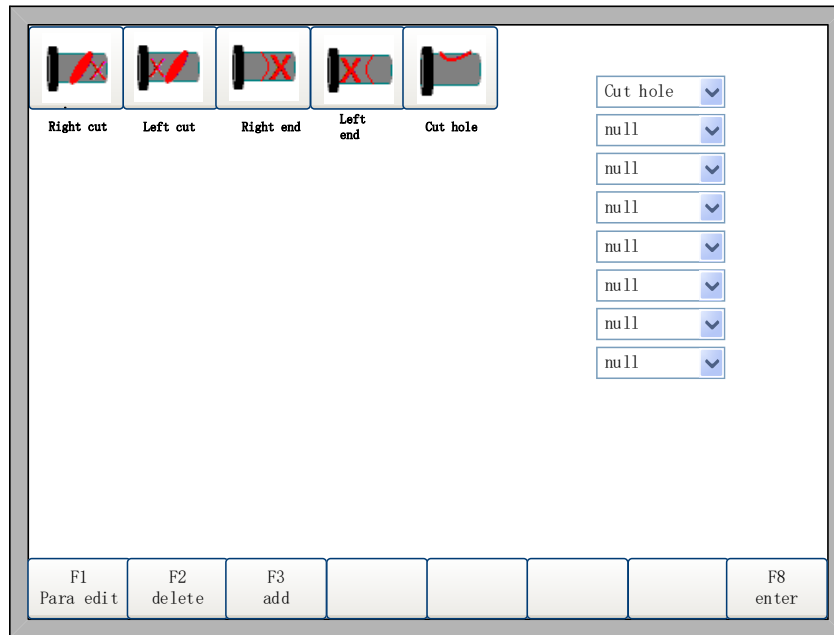

Fig16.3 Graphics library interface
Under the main interface, press [F1] to enter the tube graphics library interface, as shown in Figure 16.3.
In Figure 16.3, undergraphics library interface, press [↑], [↓] to select the end of the parameter to be set, and then press [F1] to display the corresponding parameter editing interface.
- Pipe Diameter 1: The outer diameter of the cut pipe, 1 on the schematic, which can only be set in the type of terminal selected in the first drop-down box in Figure 16.3. Unit: mm
- Pipe wall thickness 2: The wall thickness of the cut pipe, 2 on the diagram. This parameter can only be set in the type of terminal selected in the first drop-down box in Figure 16.3. Unit: mm
- Branch pipe1: The outer diameter of the cut pipe, 1 on the diagram. This parameter can only be set in the terminal type selected in the first drop-down box in Figure 16.3. Unit: mm
- Branch pipe2: The wall thickness of the cut pipe, 2 on the diagram, which can only be set in the type of terminal selected in the first drop-down box in Figure 16.3. Unit: mm
- Mother pipe D3: The outer diameter of the cut pipe, 3 on the schematic. This parameter can only be set in the type of terminal selected in the first drop-down box in Figure 16.3. Unit: mm
- Mother pipeT 6: The wall thickness of the cut pipe, 6 on the diagram. This parameter can only be set in the type of terminal selected in the first drop-down box in Figure 16.3. Unit: mm